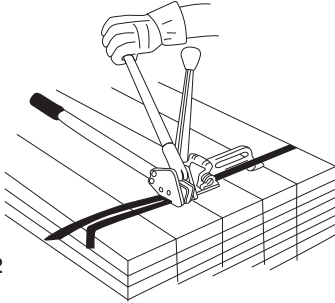

Figure 2
1. **FLYING STRAP HAZARD** - Using claw hammers, crowbars, chisels, axes or similar tools will cause tensioned strap to fly apart with hazardous force. Use only cutters designed for cutting strap. (See Figure 2) Read the instructions in the cutter's manual for proper procedure in cutting strap.
1. Fully open the sealer handles and place the open jaws to one end of the seal. (See Figure 2)